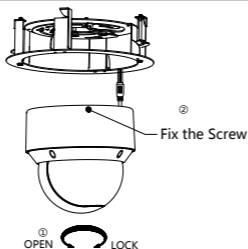

Figure 2-45 Fix the Camera
6. Fix the screws on the side with a screwdriver, as shown in Figure 2-45.